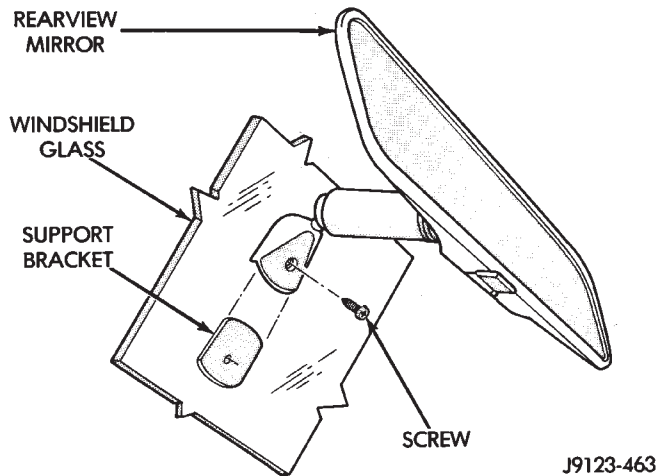

Fig. 6 Interior Rearview Mirror Setscrew Removal/Installation
(1) Loosen the mirror base-to-bracket setscrew (Fig. 6).
(2) Tighten the setscrew to 1 N·m (9 in-lbs) torque (Fig. 6).